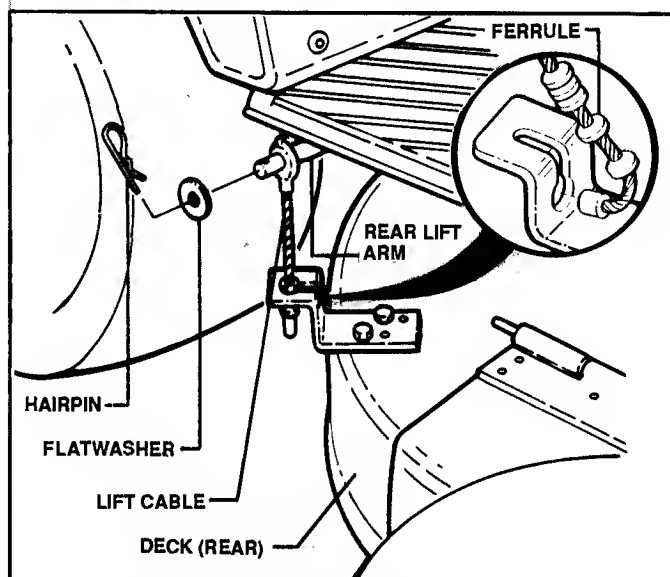

FIGURE 27
3. Remove hairpins and washers from REAR LIFT ARM CABLES. See Figure 27.